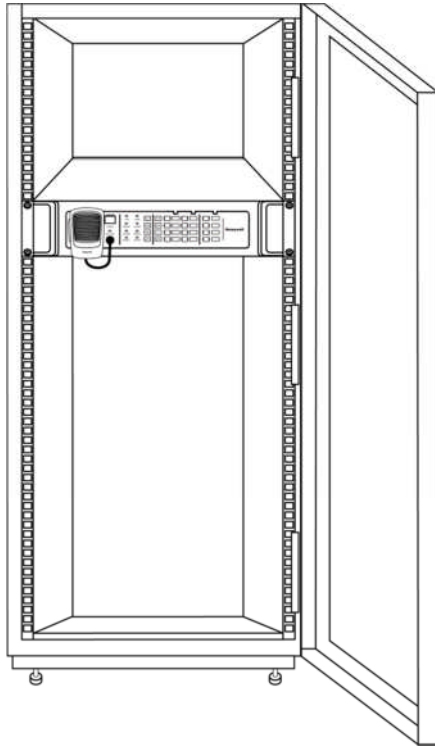

Figure 9 Schematic Diagram of Installing the DCS in the Cabinet
3. Put the DCS appliance into the cabinet, and tighten the screws to secure the unit, as shown in Figure 9.
5. Install the DA appliance into the cabinet, and tighten the screws to secure the unit, as shown in Figure 9.